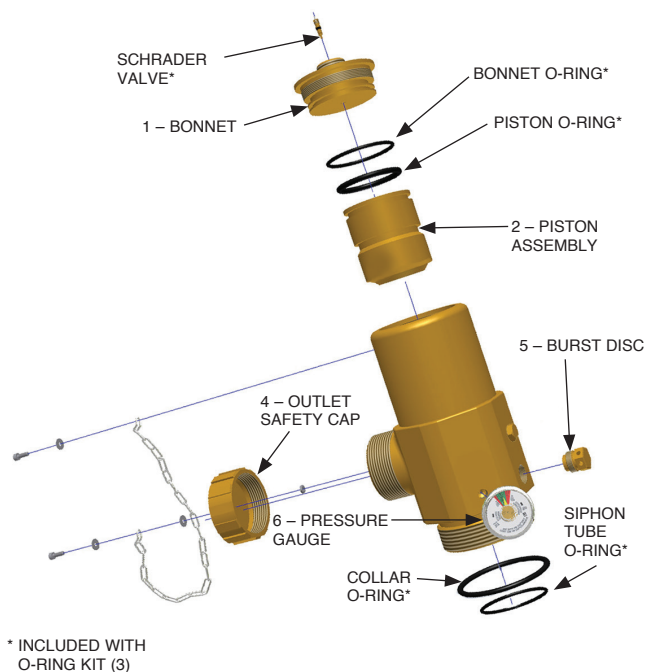

FIGURE 8-1
2. Refurbish the valves. The o-ring and valve core kit (Item 3) is a mandatory part number. Items 1, 2, 4, 5, and 6 in Table 8-1 are optional components. See Figure 8-1.